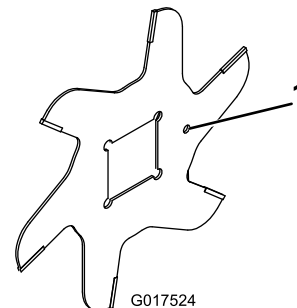

Figure 12
1. Assemble a reel blade (Figure 12).
4. Install the next blade clockwise so that the index reference hole (Figure 12) is not aligned with the first blade hole by one flat of the shaft.